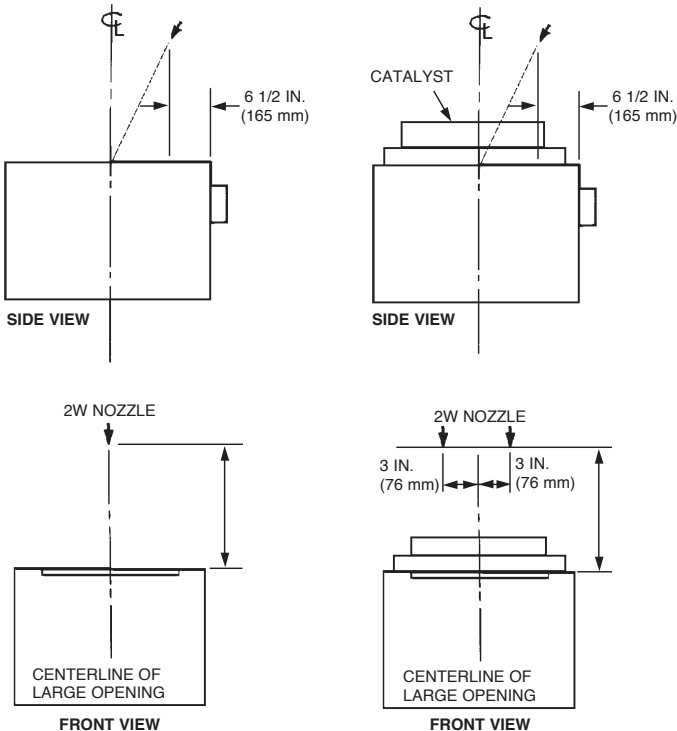

FIGURE 4-97
- Nozzle Height:** 20 in. (508 mm) above top of appliance. See Figure 4-97.